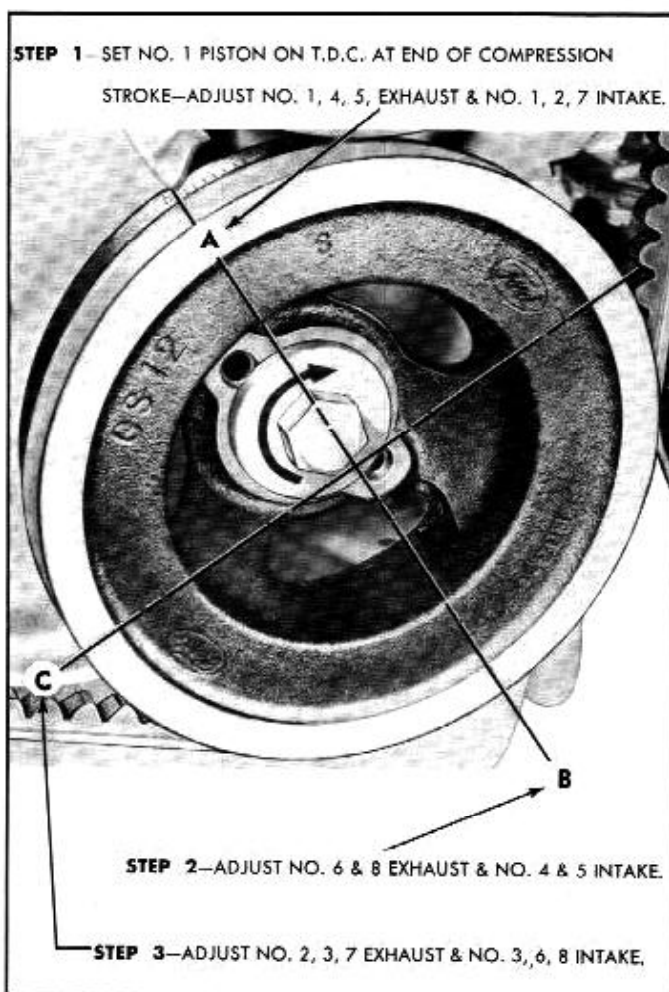

Fig. 6A-11—Quadrant for Preliminary Valve Lash Adjustment
3. Make three chalk marks on the crankshaft damper. Space the marks approximately 90° apart so that with the timing mark, the damper is divided into four equal parts (90° represents 1/4 of the distance around the damper circumference). See figure 6A-11.
4. Rotate the crankshaft until No. 1 piston is near T.D.C. at the end of the compression stroke, then adjust the following valves, using a feeler gauge (See figure 6A-12):